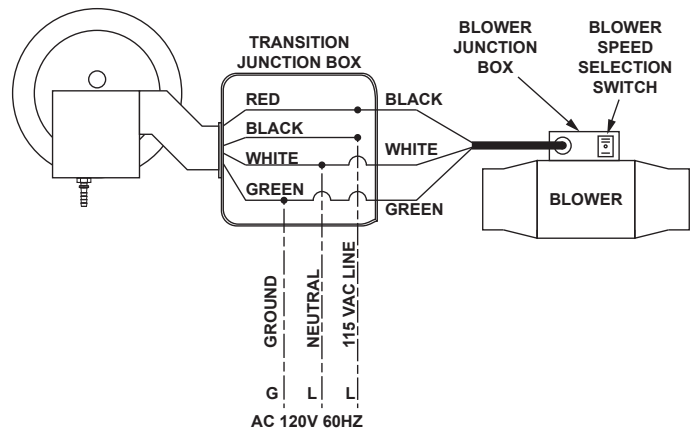

Figure 28.
3. Use the wire nuts provided in the pressure sensing switch kit to wire the pressure switch, fan cable and the power line based see Figure 28.